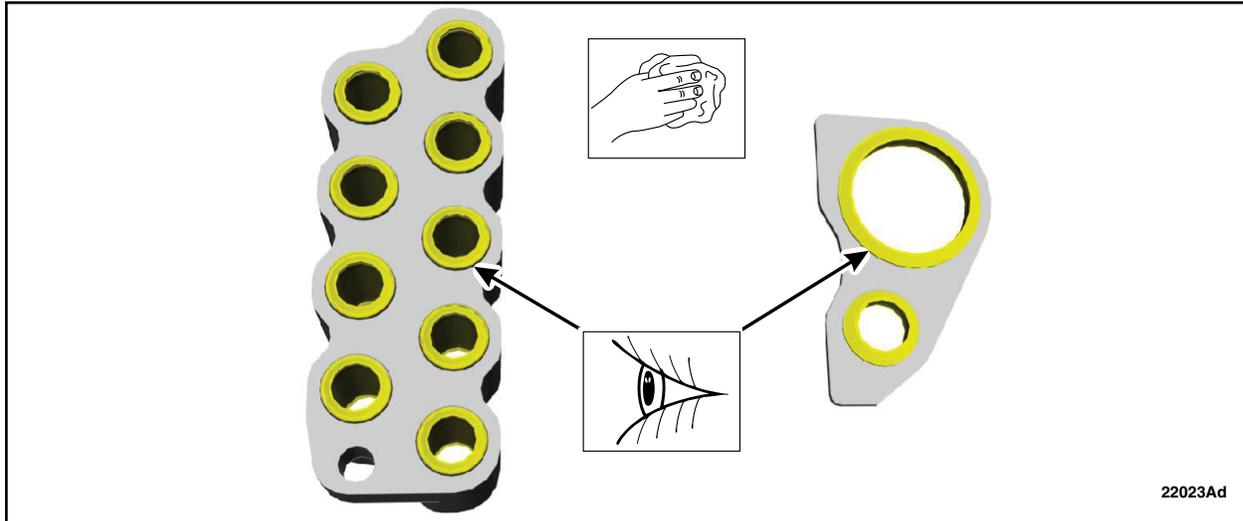

FIGURE 5
8. Clean and inspect the main control manifold seal and the fluid pump gasket for damage. See Figure 5.